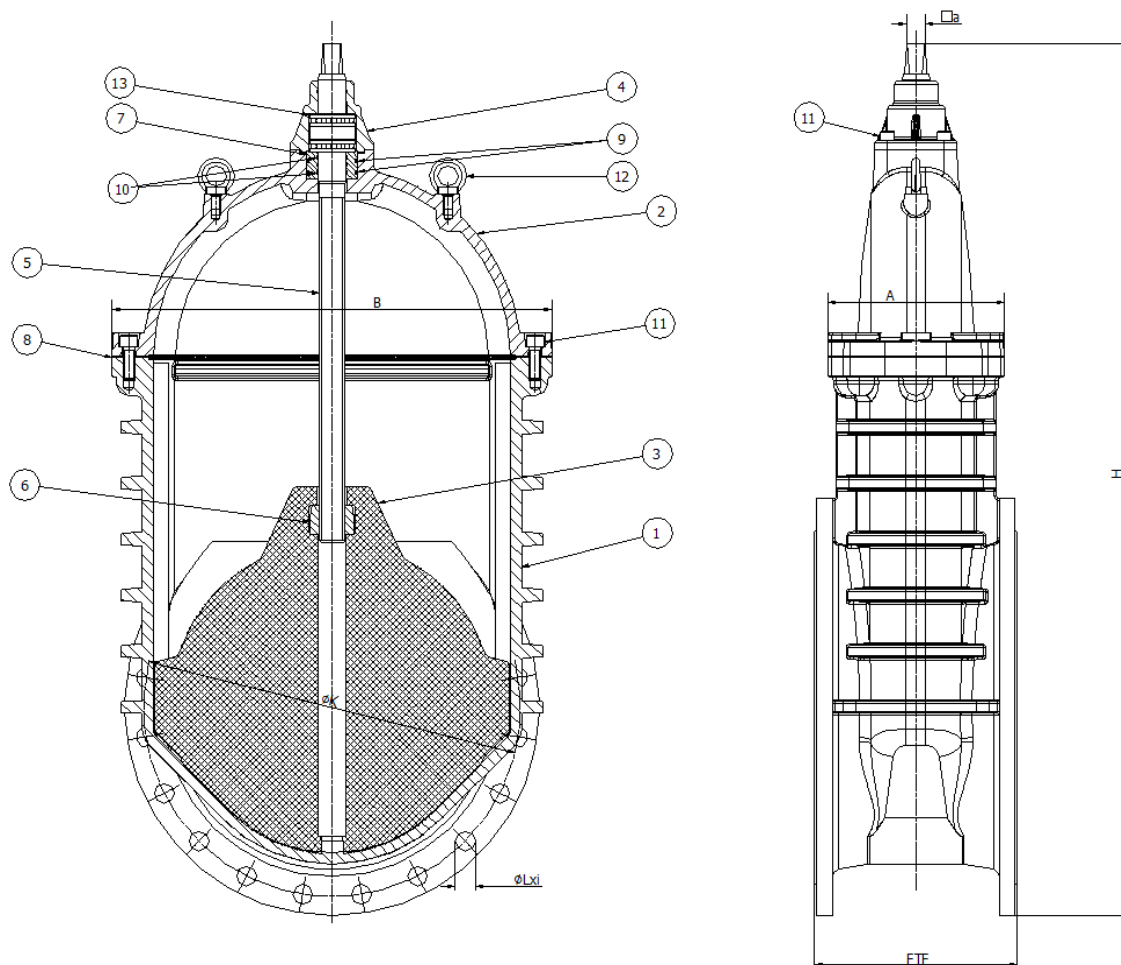

Fig. 1 – The construction of the wedge-gate valve
1.3. Design and operation (Fig.1, Tab.2)
The main elements of the gate valve are shown on the Fig.1 .